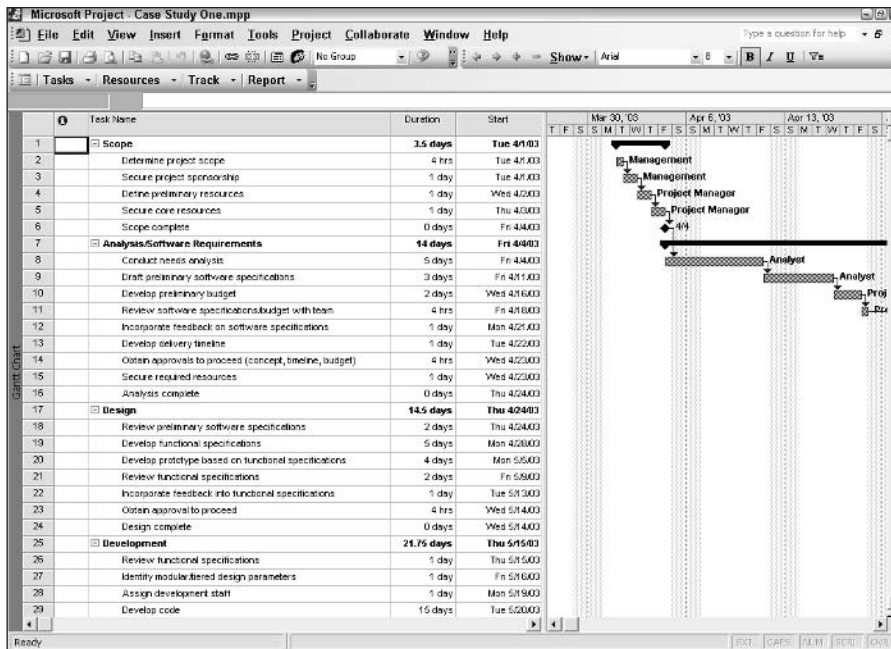
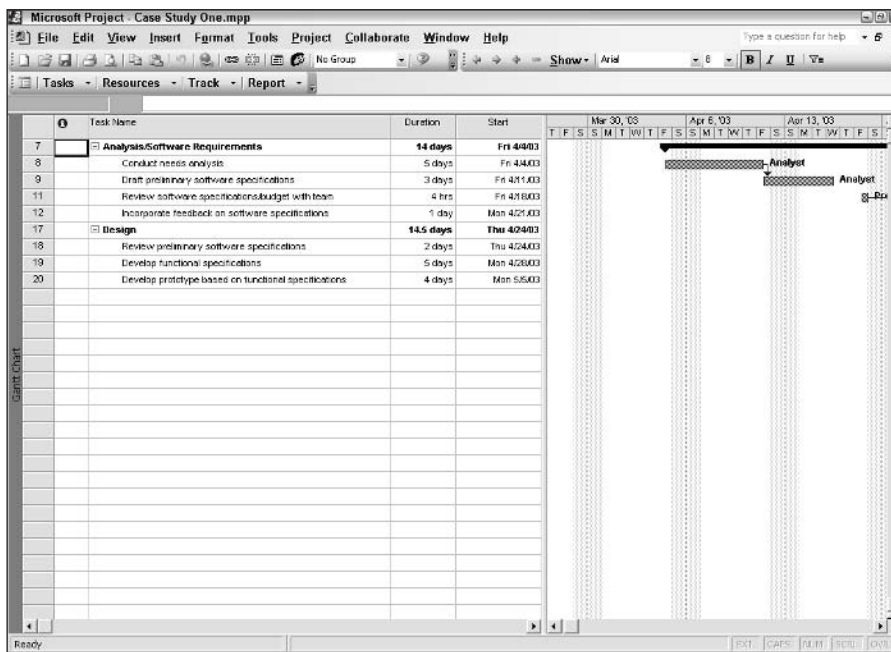
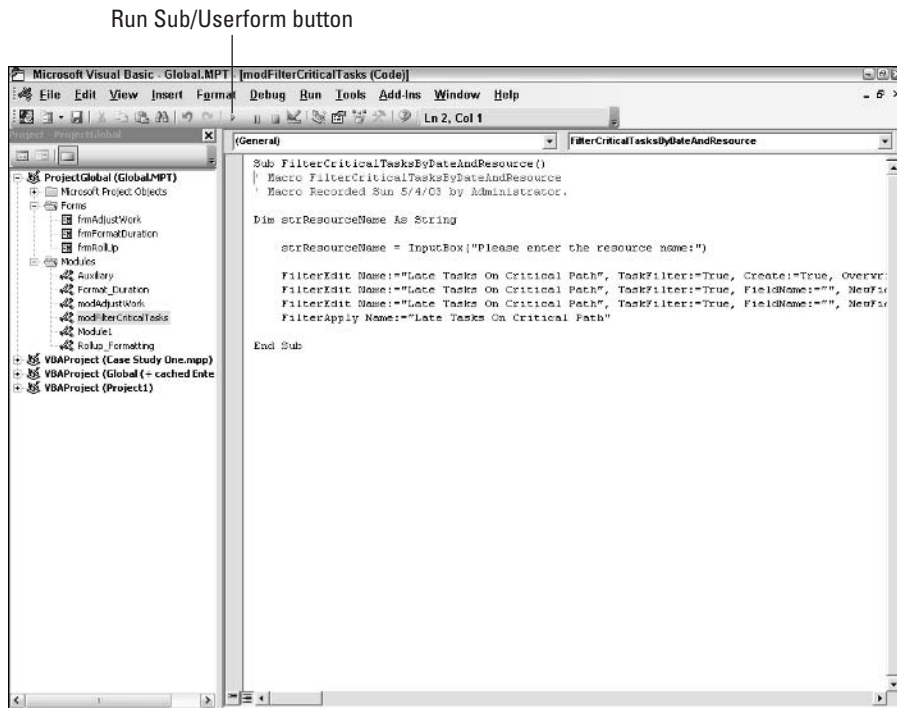
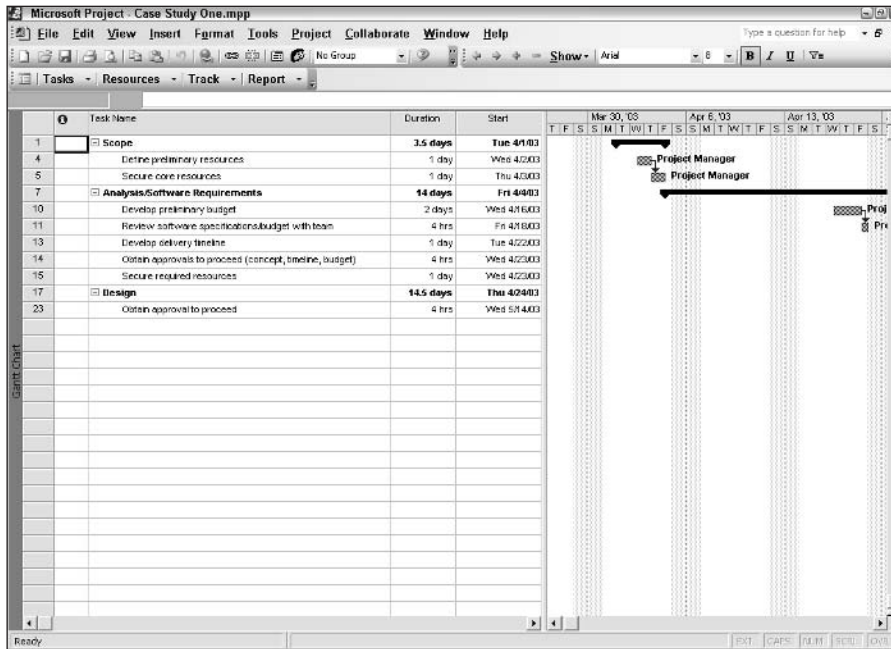

Figure 25-1: A project with all of its tasks visible.
Figure 25-4: The project has been filtered to show only the critical tasks.
Figure 25-6: Click the Run Sub/UserForm button to run the VBA sub procedure.
Figure 25-8: After adding the filter, you can view tasks that are on the critical path for the specified resource.
Recording a macro that captures the basic steps of the process is an excellent technique for producing the foundation for the VBA code that you will ultimately need. Once you've recorded the basic VBA code in a macro, you can customize the code to accomplish your exact requirements. In Figure 25-1, you see a project with all of its tasks visible.
Since the Close button was used the filter has not been applied. The code generated matches the code in Figure 25-5. But the comparison between Figures 25-1 and 25-4 does not show the expected differences because there was no “Apply” of the filter. The code in listed in the book agrees with use of Close and not Apply. The code on Figure 25-6 contains the code to apply the filter, which the user would never have supplied following the above instructions. The code presented in the text of the book does not contain the apply of the filter so as written, the code will not generate the result shown on Figure 25-8. jmpCompare Figure 25-4 with Figure 25-1. Notice that only the tasks that are on the critical path are now visible.
1. Click the Run Sub/UserForm button in the toolbar at the top of the screen, as shown in Figure 25-6.
The filter is then applied so that you can only view the tasks in the project that are late, on the critical path, and assigned to the resource Project Manager (see Figure 25-8).